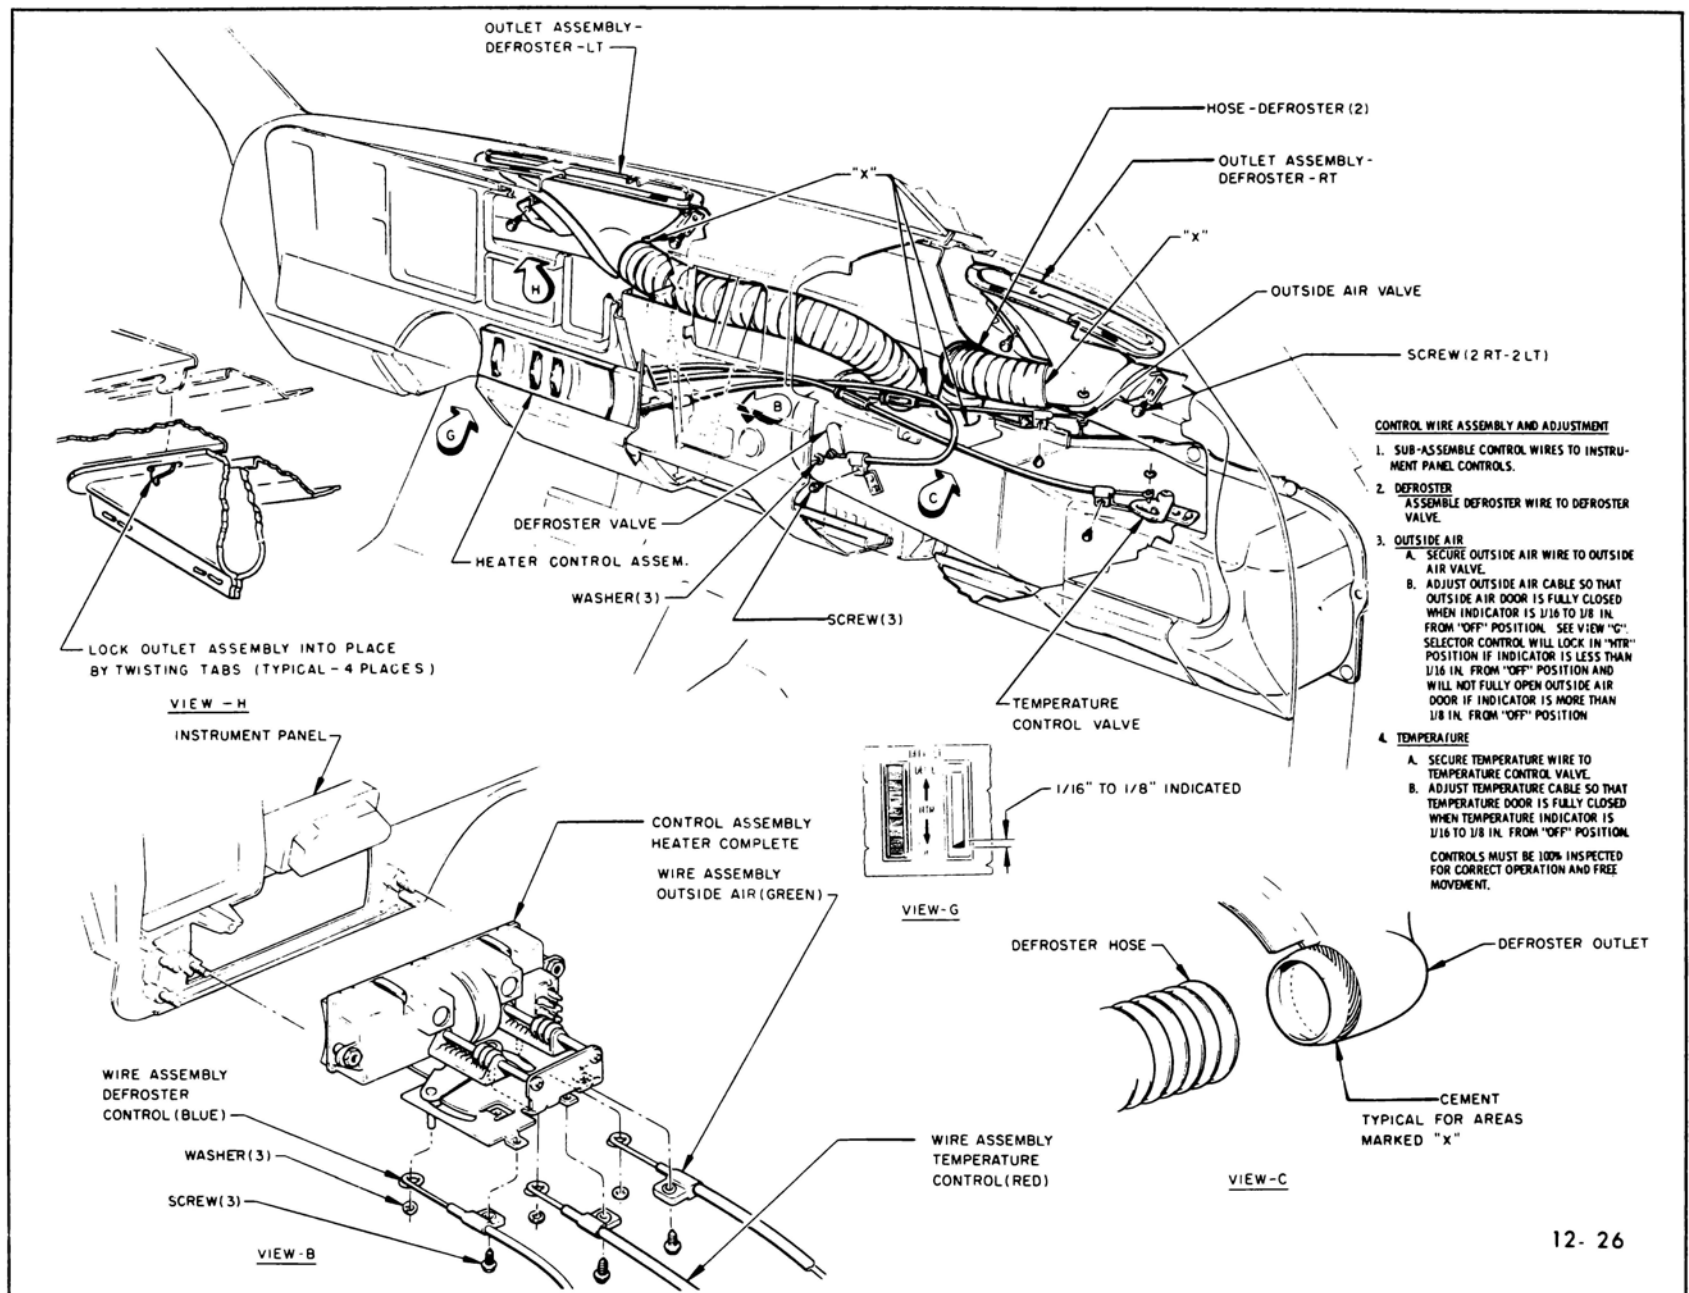

Figure 12-10 Heater Control Wire and Defroster Hose Installation
To adjust, position the DEFROST wheel to the "OFF" position and rotate the control cable adjuster nut until approximately 1/16 to 1/8 inch of indicator is showing. See Figure 12-10.
To adjust, position the TEMPERATURE wheel to the "COOL" position and rotate the control cable adjuster nut until approximately 1/16 to 1/8 inch of indicator is showing. See Figure 12-10.
**3. Heater Control Assembly** - The heater control assembly (see Figure 12-10) consists of three controls, namely the TEMPERATURE wheel, outside air (DEFROST) wheel, and FAN switch wheel.